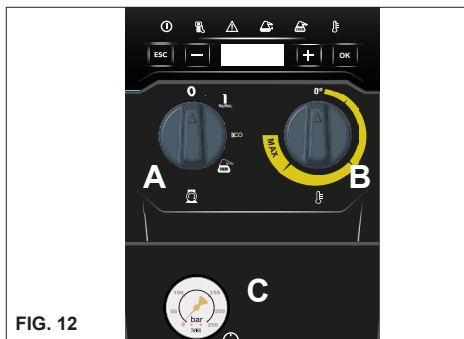

FIG. 12
N.B. To reset the indicators, rotate the main switch "A" (fig. 12) to the "O" position and then to the "I" position. Refer to the "Control Panel".